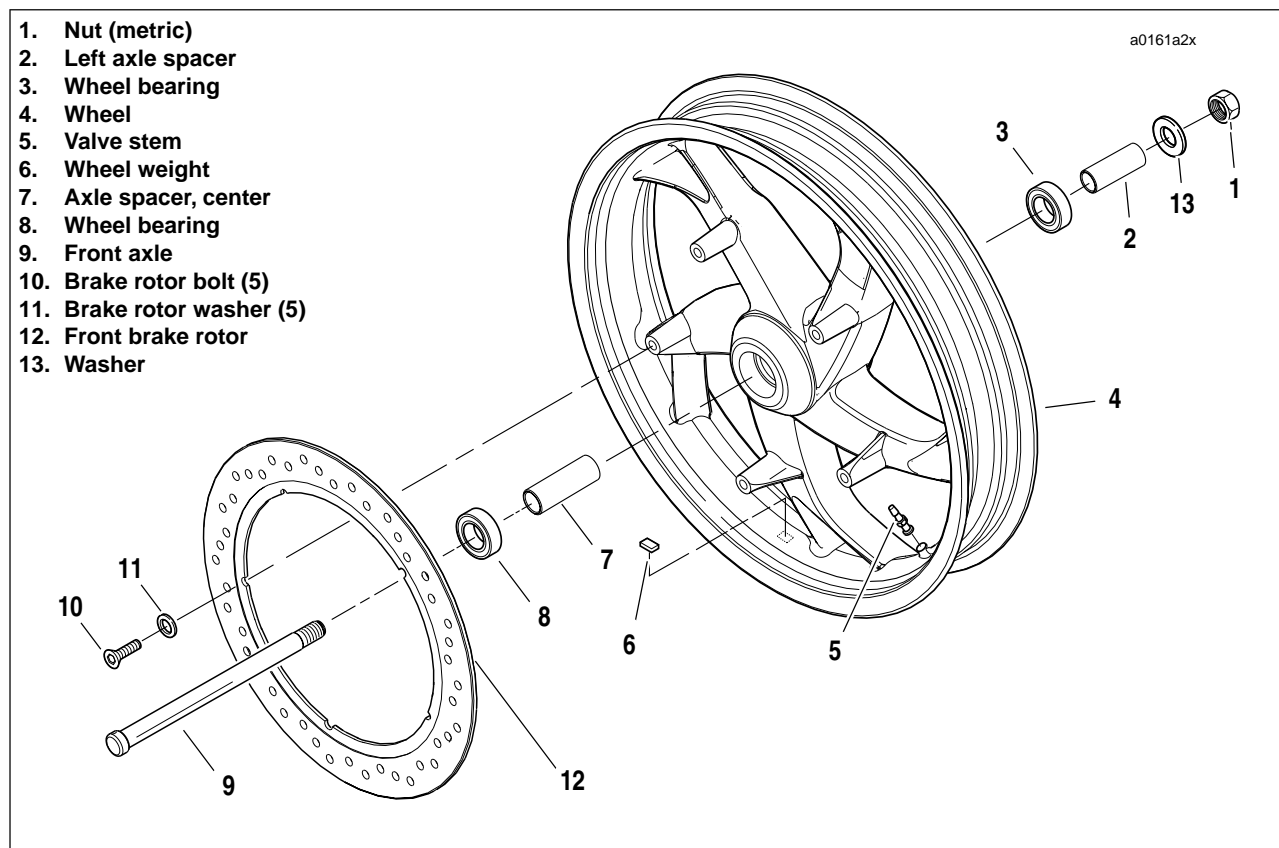

Figure 2-6. Front Wheel Assembly
1. See Figure 2-6. Remove five bolts (10) and washers (11) to detach front brake rotor (12) from wheel hub. Discard washers.
1. See Figure 2-6. Install front brake rotor (12) on right side of wheel.
- b. Apply LOCTITE THREADLOCKER 272 (red) to threads of each of the five T40 TORX screws (10).
1. See Figure 2-6. Install front axle.
- d. Install axle spacer (2) and washer (13).
3. See Figure 2-6. Install axle nut.
- b. Install axle nut (1) (metric) over threaded end of axle.
- d. While holding axle stationary, tighten axle nut (1) (metric) to 38-42 ft-lbs (52-57 Nm).